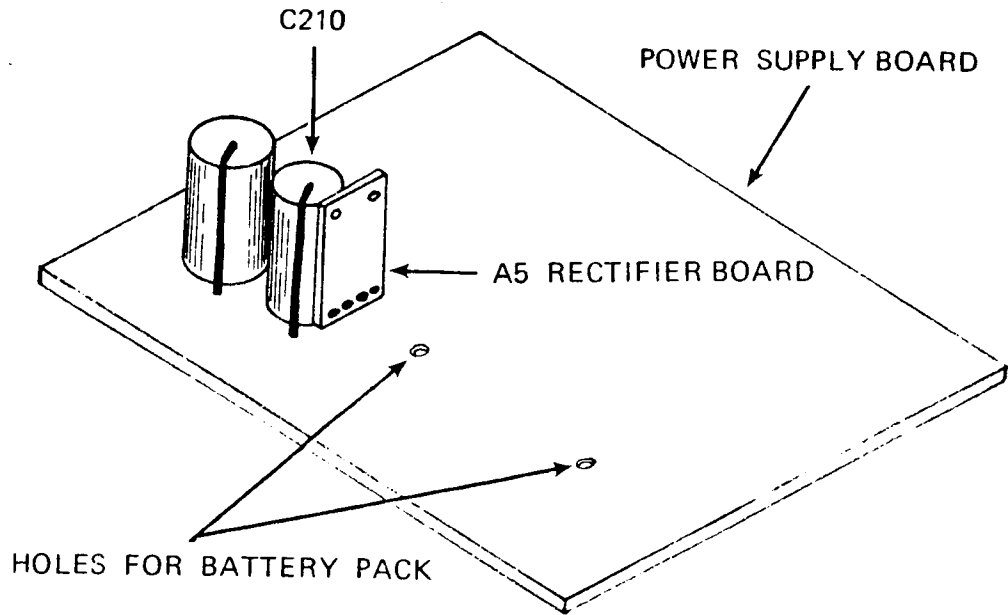
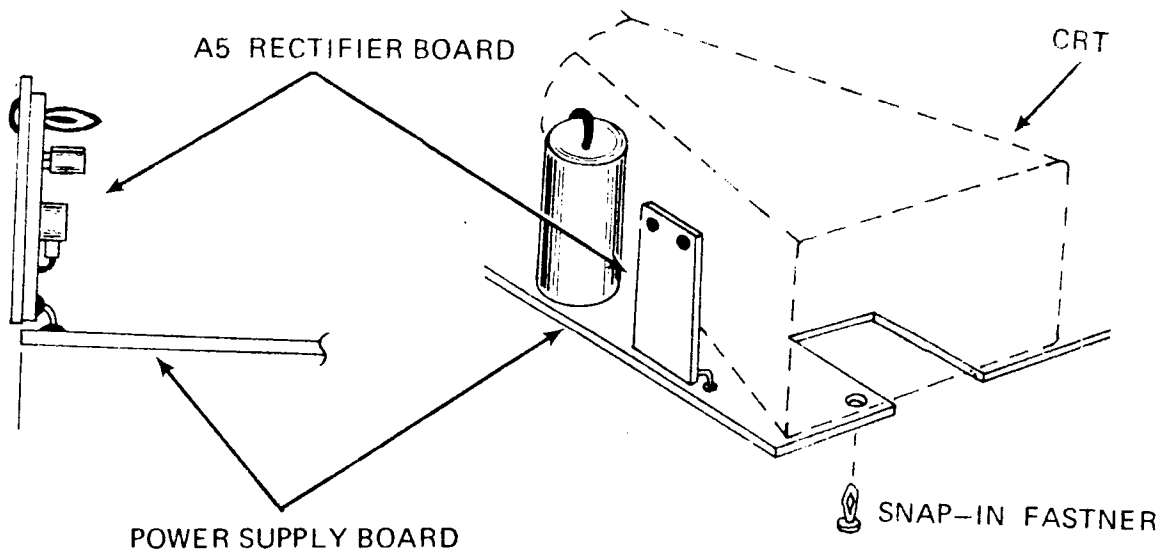

Fig. 1 - Power Supply circuit board
Fig. 2 - Snap-in fastener installation
- () 11. Solder the Rectifier circuit board (A5) into the holes vacated by CR215. For 211's, the front (component side) of the Rectifier circuit board should face C210 (See Fig. 1). For 212's and 214's, the front of the Rectifier circuit board should face the crt (See Fig. 2). Clip any long leads flush with the board.
- () 12. On 212's and 214's, add the snap-in fastener to the Power Supply circuit board as shown in Fig. 2.